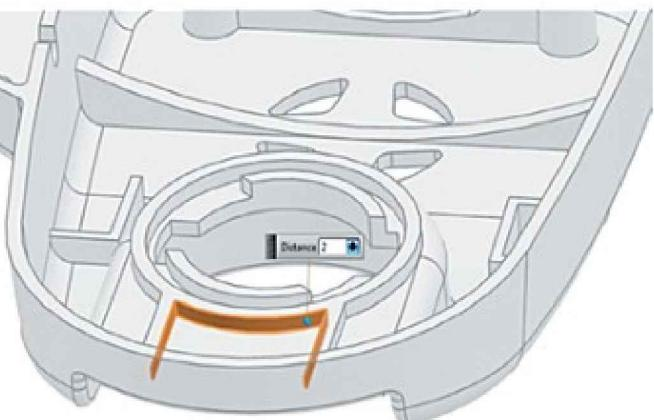

Figure 2.43. Offset Region command
5. Click **Offset Region** on the **Synchronous Modeling** toolbar. In the **Offset Region** dialog box (Figure 2.43), do the following:
- Select the 3 faces highlighted in Figure 2.43.